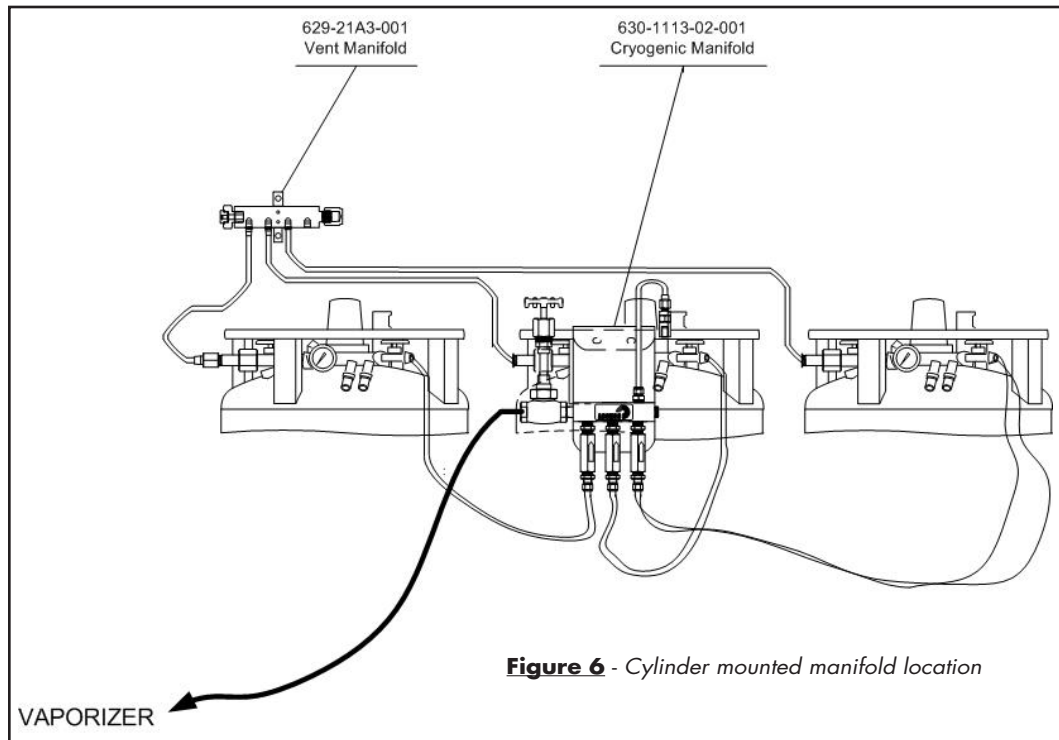

Figure 6 - Cylinder mounted manifold location
8. Hang bracket assembly on the center most cylinder as illustrated in Figure 6.